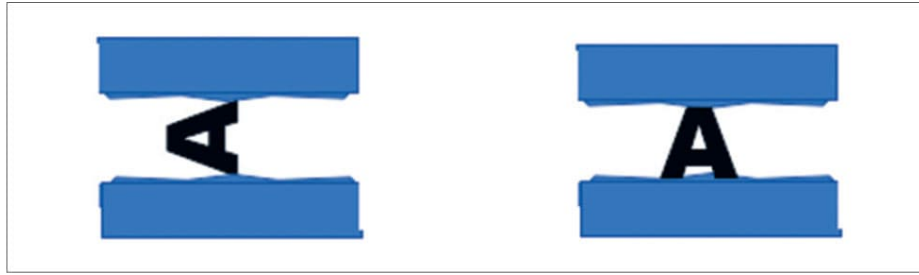

FIG. 2: Position letters in the vise jaws, first along their length, then their width, to test the properties of each letter in different orientations.
2. Place the first letter laterally in the vise along its width till the vise jaws grip it, but not so tight as to deform the letter. See fig. 2, which shows the letter A placed in the vise jaws along its length in the first part, and along its width in the second part.
4. Use a new print of the same letter, but this time, place it in the vise in a different orientation, along its length (fig. 2), till the vise jaws grip it, but not so tight as to deform the letter (fig. 3).